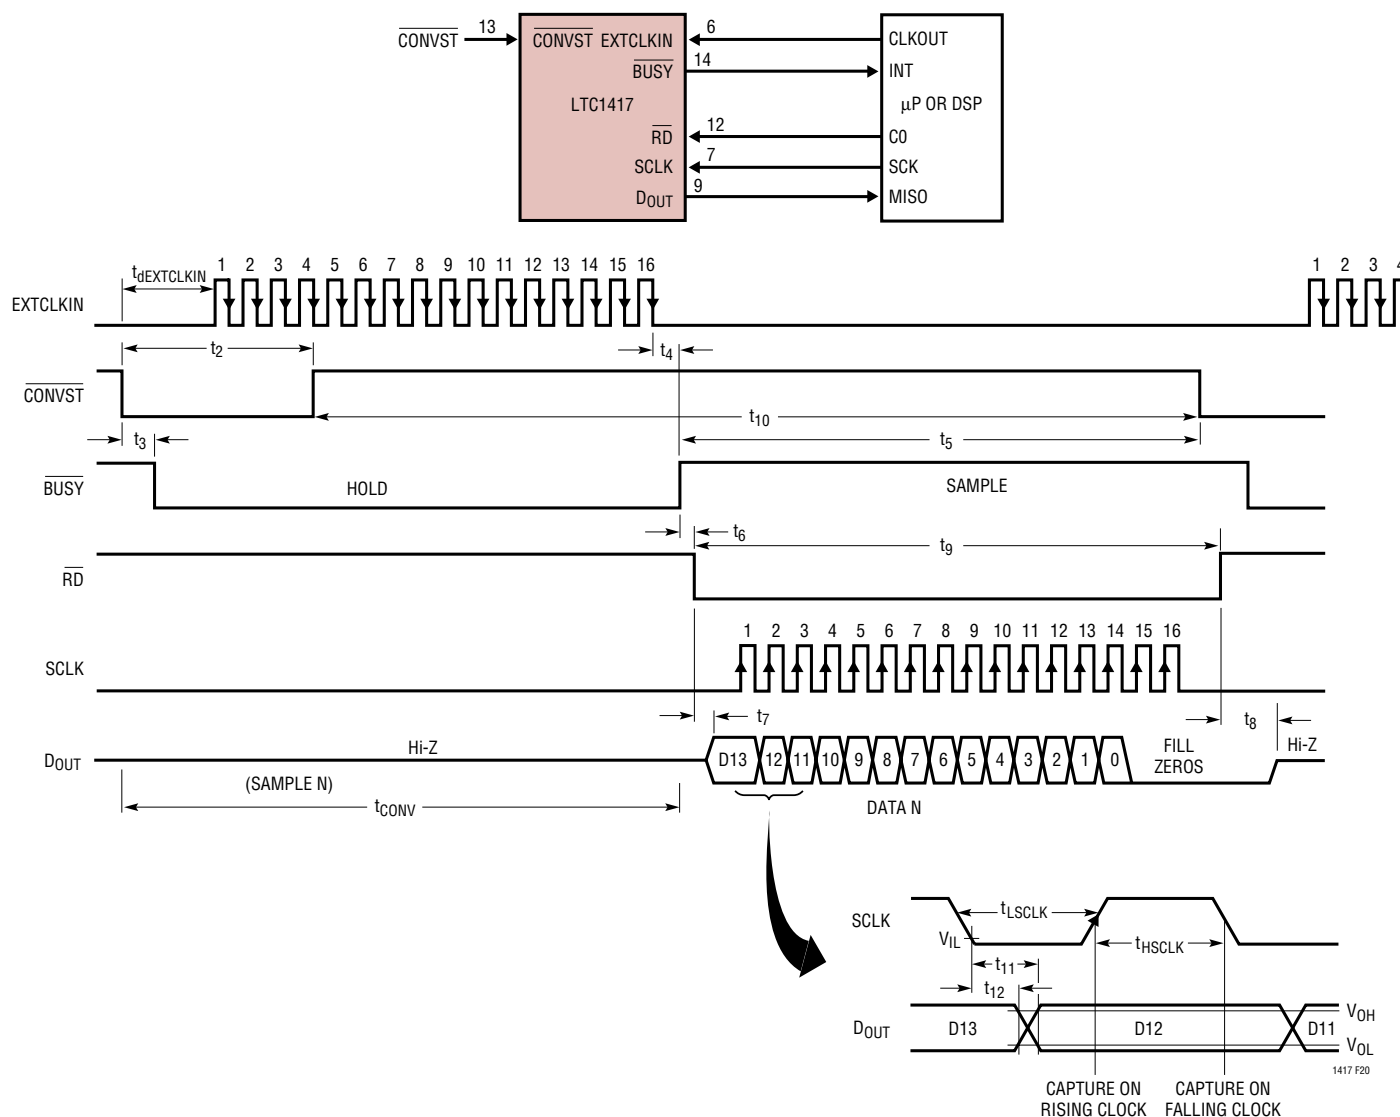

**Figure 19. Internal Conversion Clock Selected. Data Transferred After Conversion Using an External SCLK.  $\text{BUSY}\uparrow$  Indicates End of Conversion**
**Using an Internal Conversion Clock and an External Data Clock.** In this mode, data is output after the end of each conversion and before the next conversion is started (Figure 19). The internal clock is used as the conversion clock and an external clock is used for the SCLK. This mode is useful in applications where the processor acts as a serial bus master device. This mode is SPI and
**Using an External Conversion Clock and an External Data Clock.** In Figure 20, data is also output after each conversion is completed and before the next conversion is started. An external clock is used for the conversion clock and either another or the same external clock is used for the SCLK. This mode is identical to Figure 19 except that an external clock is used for the conversion. This mode allows the user to synchronize the A/D conversion to an external clock either to have precise control of the internal bit test timing or to provide a precise conversion time. As in
Figure 19, this mode works when the SCLK frequency is very low (less than 30kHz). However, the external conversion clock must be between 30kHz and 9MHz to maintain accuracy. If more than 16 SCLKs are provided, more zeros will be filled in after the data word indefinitely. To select the external conversion clock, apply an external conversion clock to EXTCLKIN. The external SCLK is applied to SCLK.  $\overline{RD}$  can be used to gate the external SCLK such that data will be clocked out only after  $\overline{RD}$  goes low.